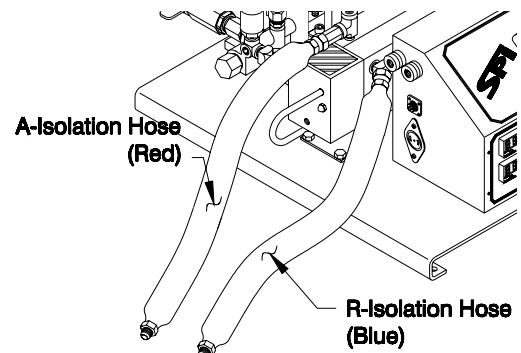

Figure 6. Isolation Hoses
1. Connect the isolation hoses to their respective primary heater outlet fittings (see Figure 6).